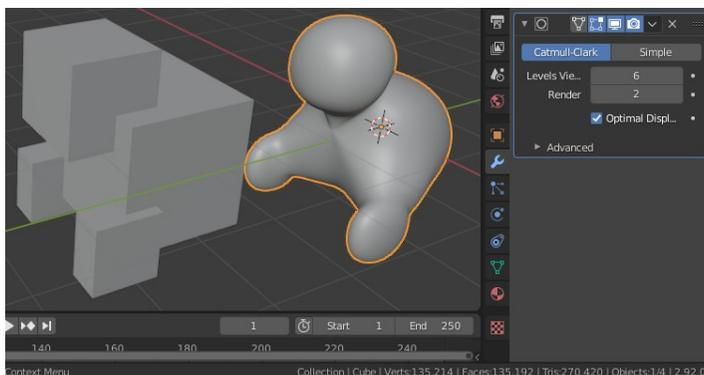
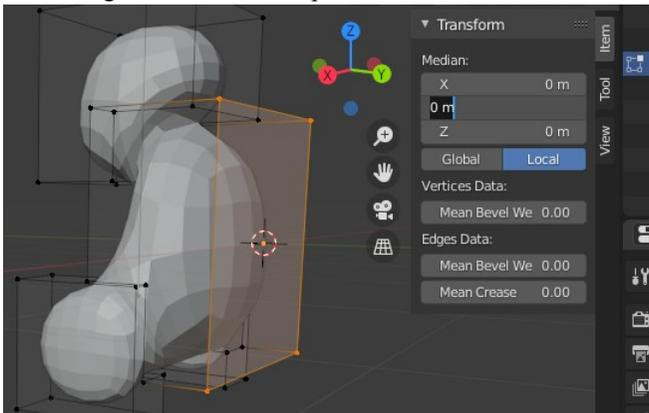

Figure 2-5 Don't subdivide too much.
Figure 2-6 Alter the position of a selection of vertices.
easier to follow when I refer to X and Y; see Figure 2-5). Delete the smaller cube when you have finished adding it.
6. Click the cross next to the little drop-down (top-right of Figure 2-5) to remove the Bevel modifier, then switch to Edit mode and select the four vertices on the unaltered side of the original cube. Select **View ▸ Sidebar**, click the Item tab, and **Transform** the values, setting the **Y** value of the vertices to **0**. Figure 2-6 shows the process.
15. In the Object Data Properties tab (the icon is three tiny green squares connected in a triangle, third from the bottom in Figure 2-5), open **Normals** and tick the **Auto Smooth** checkbox. For many purposes this option will do the trick, but it leaves perfectly sharp edges that never exist in the real world. In later chapters, you'll use alternative methods that lead to greater realism.